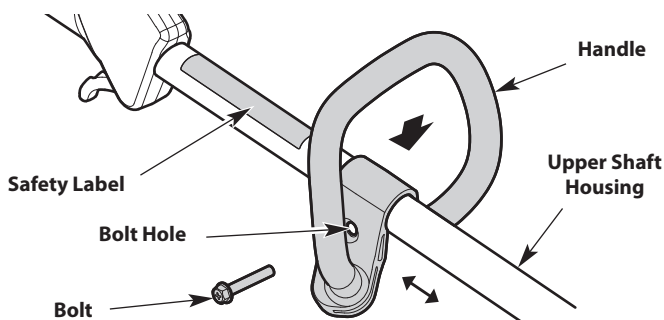

Fig. 10
1. Push the handle down onto the upper shaft housing (Fig. 10). Make sure the bolt hole faces to the right (Fig. 10).
2. Insert the bolt into the bolt hole and push it through (Fig. 10). Tighten the bolt with a flat-head screwdriver, but do not tighten the bolt completely.
3. Hold the unit in the operating position (Fig. 15). Move the handle up or down the upper shaft housing to a comfortable location (Fig. 10). Make sure the handle is positioned beyond the end of the safety label (Fig. 10).
1. Loosen the bolt with a flat-head screwdriver (Fig. 10).
2. Hold the unit in the operating position (Fig. 15). Move the handle up or down the upper shaft housing to a comfortable location (Fig. 10). Make sure the handle is positioned beyond the end of the safety label (Fig. 10).